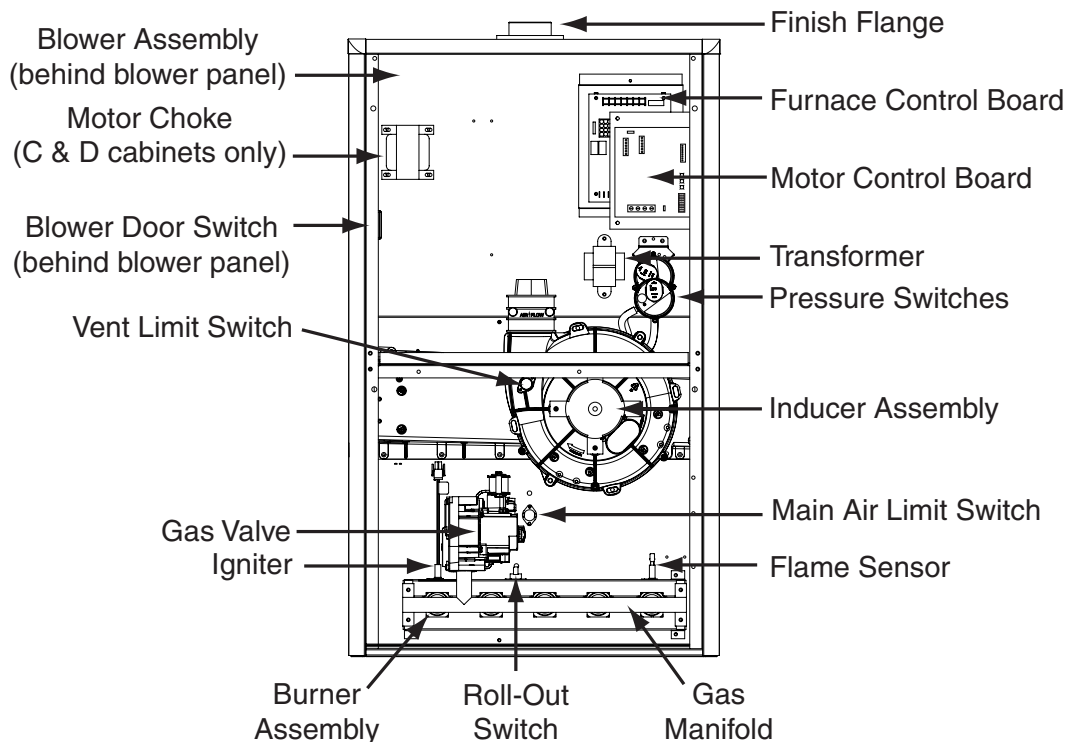

Figure 37. Component Locations
- If the Inducer Blower is operating, and items above have been verified, check the Blower Limit Switch and reset if necessary. See Figure 37 (page 44).
- If the furnace still doesn't operate, check the Flame Roll-out Switches (Figure 37) and reset if necessary.
The descriptions below are various functional components that affect the operation and shutting down of this furnace. Some of these components and their locations are shown in Figure 37 (page 44). If any component of the furnace must be replaced, use only factory authorized replacement parts specified in the Replacement Parts List provided online.